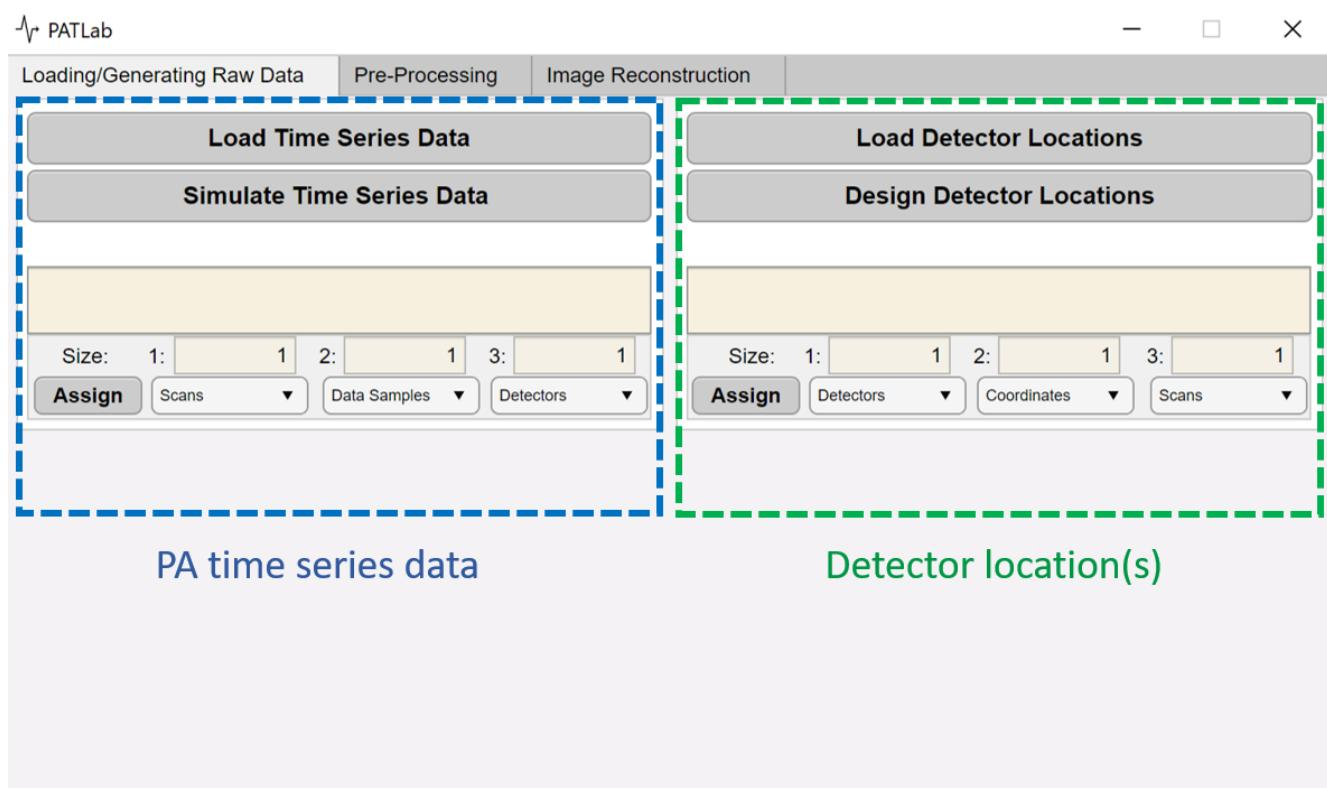

Figure 3-1: Loading/Generating Raw Data panel.
- 1- Detector location(s) (indicated with green dashed box in Figure 3-1):
- 2- PA time series data (indicated with blue dashed box in Figure 3-1):
The button **Load Detector Locations** (Figure 3-1) is for loading previously defined detector positions. The accepted data format is **.mat**. The detector locations can be formatted as 2D or 3D matrices (one dimension for the detectors, one for the number of dimension coordinates (i.e., two for 2D and three for 3D), and the third for the number of frames). The matrix can be 2D when there is only one frame or one detector element available. The order of the dimensions is not important, PATLab allows assigning each matrix dimension to a role. To do so, three **Size** boxes are designed for each dimension allowing the user to select their corresponding roles by utilizing the dropdown menus provided. **Assign** must be pressed afterwards to confirm the selection. It will turn green if successful.
The **Design Detector Locations** button (Figure 3-1) is useful when a file with detector element positions is not available, or to simulate a new detector array (configuration). The button opens a new interface offering common 2D and 3D configurations (Figure 3-2). Furthermore, it is possible to design a combination of different configurations.
Photoacoustic time series data can be directly loaded by clicking the **Load Time Series Data** button (Figure 3-1). In response, a file selection dialog box will open, which allows the user to select data formatted as a **mat** file. The **mat** file can be formatted as a 3D matrix, where the dimensions are as follows: (i) number of detectors, (ii) number of data points per time series, and (iii) number of frames. The matrix can be 2D when only one frame or one detector is available. The order of the dimensions is not important since PATLab allows assignment of each matrix dimension to a role. Three **Size** boxes display the dimensions and dropdown menus allow the user to select the role of each dimension. The **Assign** button must be pressed afterwards to confirm the selection. It will turn green if successful.